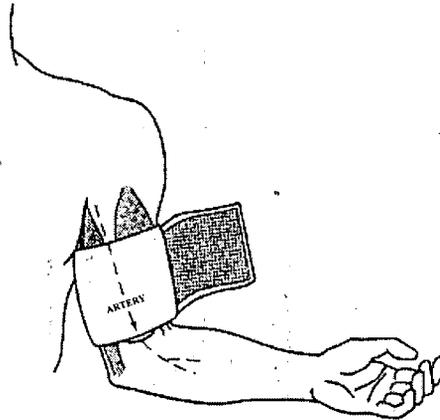

Figure 6-11 Attaching NIBP Cuff to Patient
2. Attach the NIBP cuff to the patient's arm. When wrapping the cuff around the arm, make sure that the *Artery Marker* is aligned over the brachial artery between the biceps and triceps muscles on the inside of the arm as shown in Figure 6-11 on page 6-8.